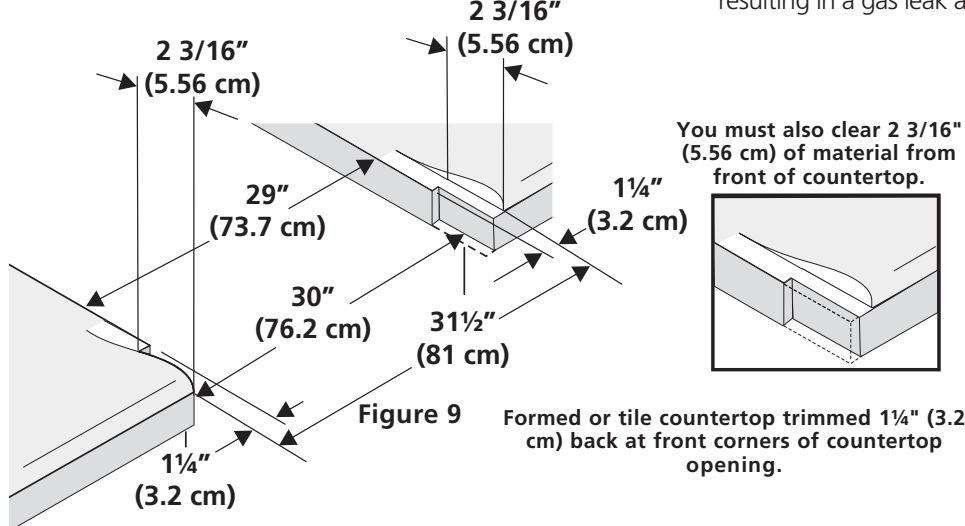

Figure 9 Formed or tile countertop trimmed $1\frac{1}{4}$ " (3.2 cm) back at front corners of countertop opening.
- **For existing cutout width of 29" (73.7 cm) (Figure 9):**